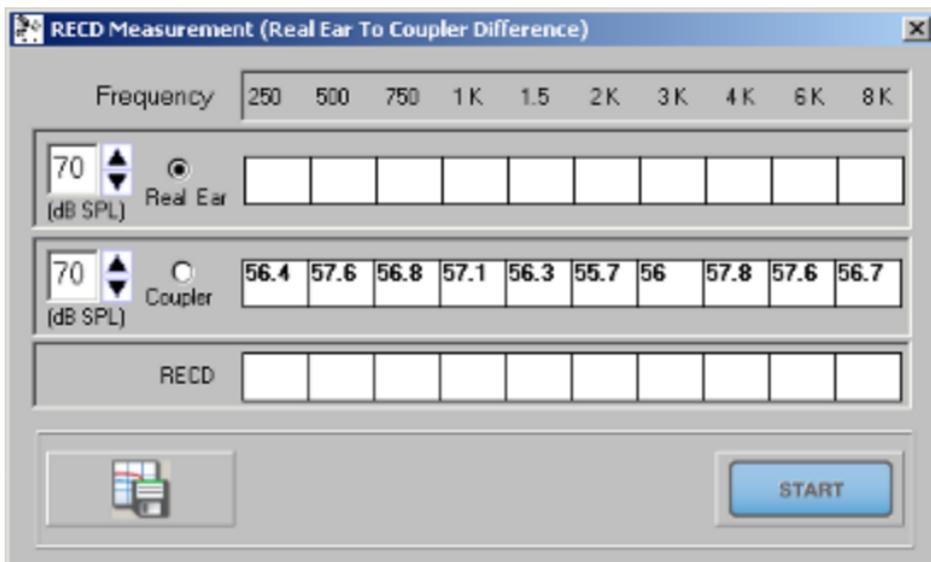

Figure 8: RECD window with the FP40/6500-CX. (7000 and FP35 users will not see the "Coupler" row of this window.)
6. Click **Get RECD**. This will open the RECD measurement window. See Figure 8.
4. Open the RECD window by clicking the **RECD** button in the Audiometric Information tab. See Figure 8.